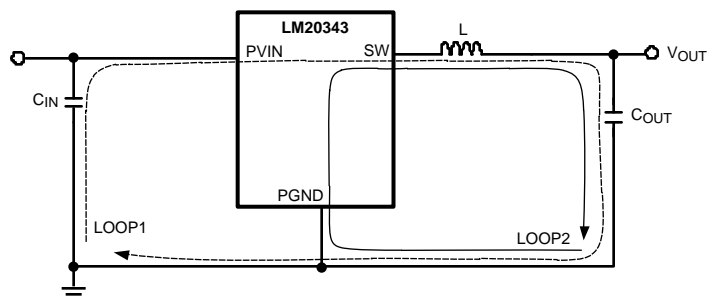

Figure 37. Schematic of LM20343 Highlighting Layout Sensitive Nodes
1. Minimize area of switched current loops. In a buck regulator there are two loops where currents are switched at high slew rates. The first loop starts from the input capacitor, to the regulator VIN pin, to the regulator SW pin, to the inductor then out to the output capacitor and load. The second loop starts from the output capacitor ground, to the regulator GND pins, to the inductor and then out to the load (see Figure 37). To minimize both loop areas the input capacitor should be placed as close as possible to the VIN pin. Grounding for both the input and output capacitor should consist of a small localized top side plane that connects to GND and the exposed pad (EP). The inductor should be placed as close as possible to the SW pin and output capacitor.